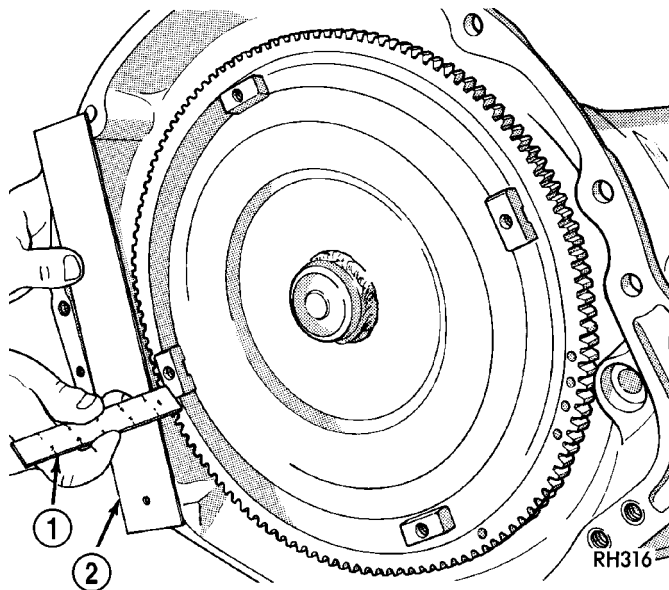

Fig. 329 Checking Torque Converter Seating
(3) Align torque converter to oil pump seal opening.
(4) Insert torque converter hub into oil pump.
(5) While pushing torque converter inward, rotate converter until converter is fully seated in the oil pump gears.
(6) Check converter seating with a scale and straightedge (Fig. 329). Surface of converter lugs should be 1/2 in. to rear of straightedge when converter is fully seated.
(7) If necessary, temporarily secure converter with C-clamp attached to the converter housing.
(8) Install the transmission in the vehicle. (Refer to 21 - TRANSMISSION/TRANSAXLE/AUTOMATIC - 41TE - INSTALLATION)
(9) Fill the transmission with the recommended fluid. (Refer to 21 - TRANSMISSION/TRANSAXLE/AUTOMATIC - 41TE/FLUID - STANDARD PROCEDURE)